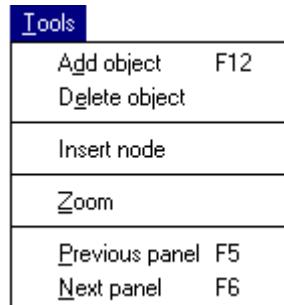
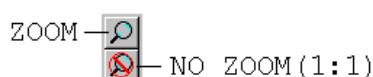

Figure 24 : TOOLS MENU
Figure 27 : ZOOM TOOLBAR
A first click on the *Zoom* button (Figure 27) or on *Zoom* on the *Tools* menu (Figure 24) changes the cursor in and allows you to zoom in the section view by simple click on it.
A second click on the *Zoom* button (Figure 27) or on *Zoom* on the *Tools* menu (Figure 24) changes back the cursor in and allows you to work on your zoomed section view.
- click on the *No Zoom (1:1)* button (Figure 27) to bring back the view to the initial size.